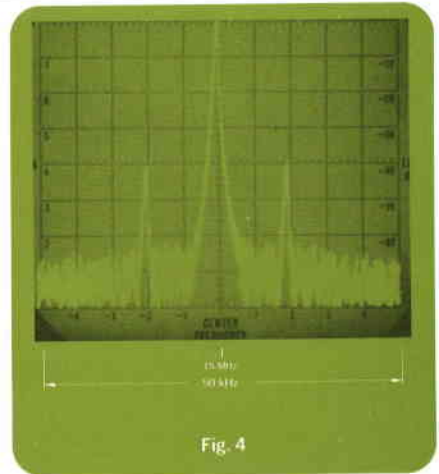
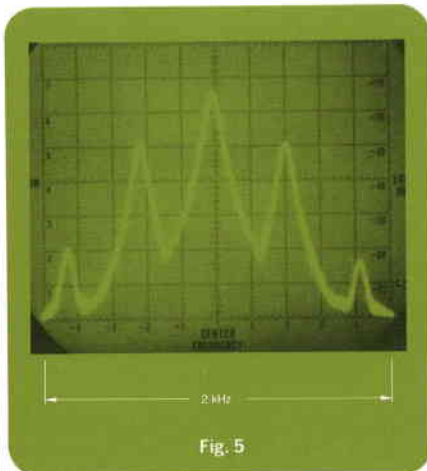
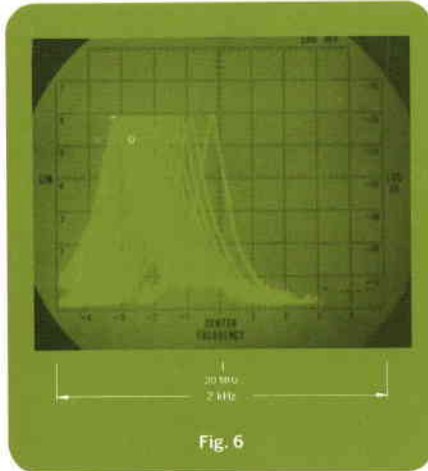
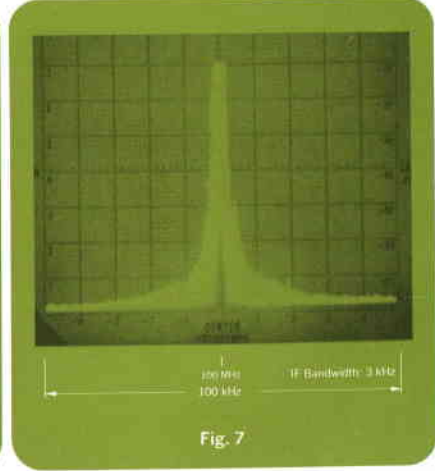

Fig. 4
Fig. 5
Fig. 6
Fig. 7
Amplitude modulation indexes as low as 0.06%, much too low even to be seen on an oscilloscope, can be measured using the 70-dB display range of the new spectrum analyzer. Fig. 4 shows the spectrum of a 15-MHz signal amplitude-modulated at a 10-kHz rate. If  $\beta$  is the ratio of the carrier amplitude  $V_c$  to the sideband amplitude  $V_s$ , expressed in dB, then modulation index  $m$  is given by
In Fig. 4, the sidebands are 40 dB below the carrier. Hence
The resolution of a spectrum analyzer is its ability to separate closely spaced signals. This is important in measuring intermodulation distortion and low-frequency FM and AM, among other things. Resolution is determined mainly by the IF bandwidth. The new analyzer has nine IF bandwidths, ranging from 50 Hz to 300 kHz. Fig. 5 demonstrates the resolution of the 50-Hz IF filter, which has a 3-dB bandwidth of 50 Hz and a 60-dB band-
Fig. 6 shows the warmup drift of a 20-MHz oscillator, displayed on the optional variable-persistence display section. Single scans were triggered every 5 seconds and the traces stored on the CRT. The display indicates a drift of about 600 Hz in 80 seconds.
Residual FM noise sidebands of an oscillator can also be evaluated. Fig. 7 shows the spectrum of a 100-MHz oscillator. The deviation at the top of the trace shows low-frequency residual FM of about 4 kHz peak-to-peak. The 'grass' at the edges of the trace indicates a sideband noise level about 65 dB below the carrier, 10 kHz away from the center frequency.
**Fig. 4.** Spectrum of a 15-MHz signal with 10-kHz amplitude modulation. Sidebands are 40 dB below the carrier, so modulation index  $m$  is  $2 \times 10^{-40/20} = 0.02 = 2\%$ . The 70-dB display range of the new spectrum analyzer can be used to measure modulation indexes as low as 0.06%. The analyzer can also be used as a fixed-tuned receiver to recover the modulation. **Fig. 5.** The new analyzer's 50-Hz IF bandwidth can resolve signals differing by 40 dB in amplitude when they are 400 Hz apart. There are eight other IF bandwidths. This is the spectrum of a carrier amplitude-modulated at 400 Hz, as seen with the 50-Hz bandwidth. Sidebands are 16 dB below the carrier, indicating a modulation index of 30%. Second-harmonic distortion products are more than 30 dB below the fundamental. **Fig. 6.** Warmup drift of a 20-MHz oscillator, displayed on the optional variable persistence display section. Single analyzer scans were triggered every 5 seconds and the traces were stored. The oscillator drifted about 600 Hz in 80 seconds. **Fig. 7.** Spectrum of a 100-MHz oscillator. The deviation at the top of the trace shows about 4 kHz residual FM. The 'grass' at the edges of the trace indicates a sideband noise level about 66 dB below the carrier, 10 kHz away from the carrier frequency.
When the analyzer is switched to STABILIZED, the APC line (Fig. 4) is disconnected from ground, allowing the APC loop to operate. The search network sweeps the VTO until the VTO's frequency reaches some harmonic of 100 kHz. At this point the VTO locks onto the harmonic of the 100-kHz reference and the APC loop becomes stable, disabling the search signal. An error voltage,  $V_e$ , which is proportional to how far the VTO frequency had to shift to reach a harmonic of the 100-kHz reference, is established on the APC line. This error voltage is applied to the 47-MHz LO in the IF plug-in. The 47-MHz LO then shifts its frequency the same amount that the VTO shifted to reach a phase-lock point. As a result, there is essentially no change in the location of a trace on the analyzer's screen when the analyzer is switched from UNSTABILIZED to STABILIZED.
Fig. 4. When the APC loop is closed, the search network tunes the VTO until the VTO frequency is equal to a harmonic of 100 kHz. Then the loop locks and an error voltage,  $V_e$ , is sent to the 47-MHz third local oscillator, shifting its frequency the same amount that the VTO shifted to reach a lock point. Thus there is essentially no shift in the position of a trace on the CRT when stabilization is switched on.
The computer printout for the interaction of the first and second local oscillators is shown in Fig. 5.
Fig. 5. The new spectrum analyzer's residual responses are typically much lower than -110 dBm. To get them this low, a computer program was written to identify residual responses (SPUR) so that filters could be designed to suppress them. This is the printout for the first mixer.
Fig. 6. LC filters are used for the 100 kHz, 30 kHz, and 10 kHz IF bandwidths. Feedback amplifier cancels tank circuit losses represented by  $G_1$  to make gain nearly independent of bandwidth.
The widest bandwidth, 300 kHz, is determined by a fixed LC filter at the beginning of the 3-MHz IF strip. LC filters are also used for the 100-kHz, 30-kHz and 10-kHz bandwidths. Fig. 6 shows a typical LC filter stage. Feedback is used to cancel losses in the LC tank circuit and make it appear ideal. The rest of the circuit presents a negative input impedance to the tank circuit and cancels the losses, which are represented by  $G_1$  in Fig. 6. Bandwidth is controlled by varying the source resistance,  $R_s$ . Since the tank circuit appears ideal, there is no voltage drop across  $R_s$  at resonance. Hence the gain at resonance is independent of bandwidth.